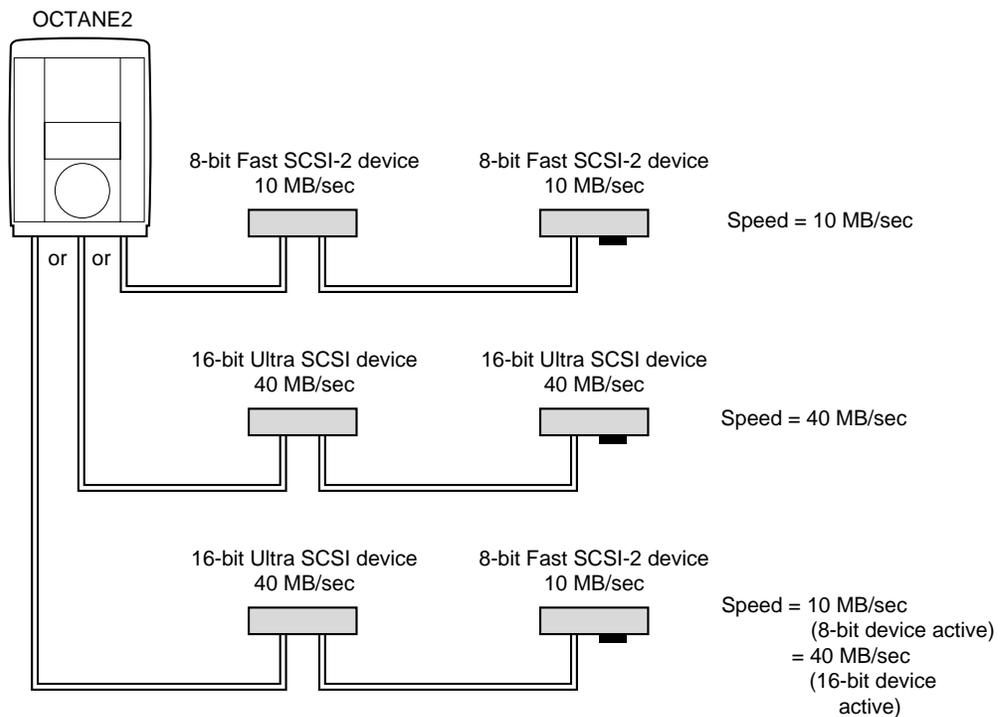

Figure 6-5 Comparing Speed of Daisy-Chained Devices
- To connect the device directly to your workstation's SCSI port, use the high-density 68-pin to Centronics® 50-pin Fast SCSI cable. See Figure 6-5.